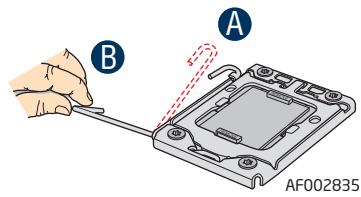

Figure 20. Lifting Processor Socket Handle
8. Push the lever handle down and away from the socket to release it (see letter “A” in Figure 20).
9. Rotate the lever open all the way (see letter “B” in Figure 20).